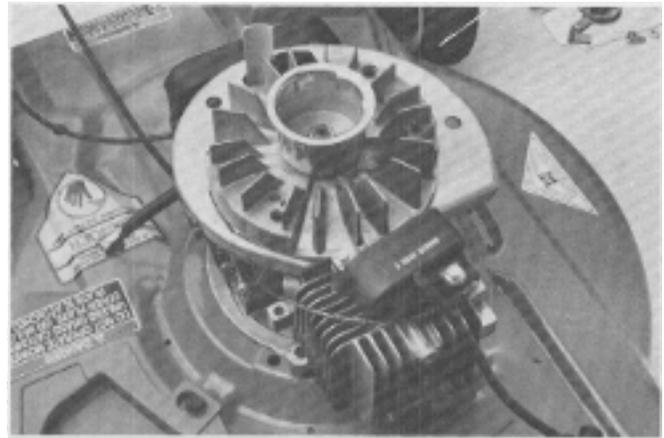

Figure 54
4. Torque flywheel nut (Figure 54) to 375-425 in lbs (43 - 47 N•m).